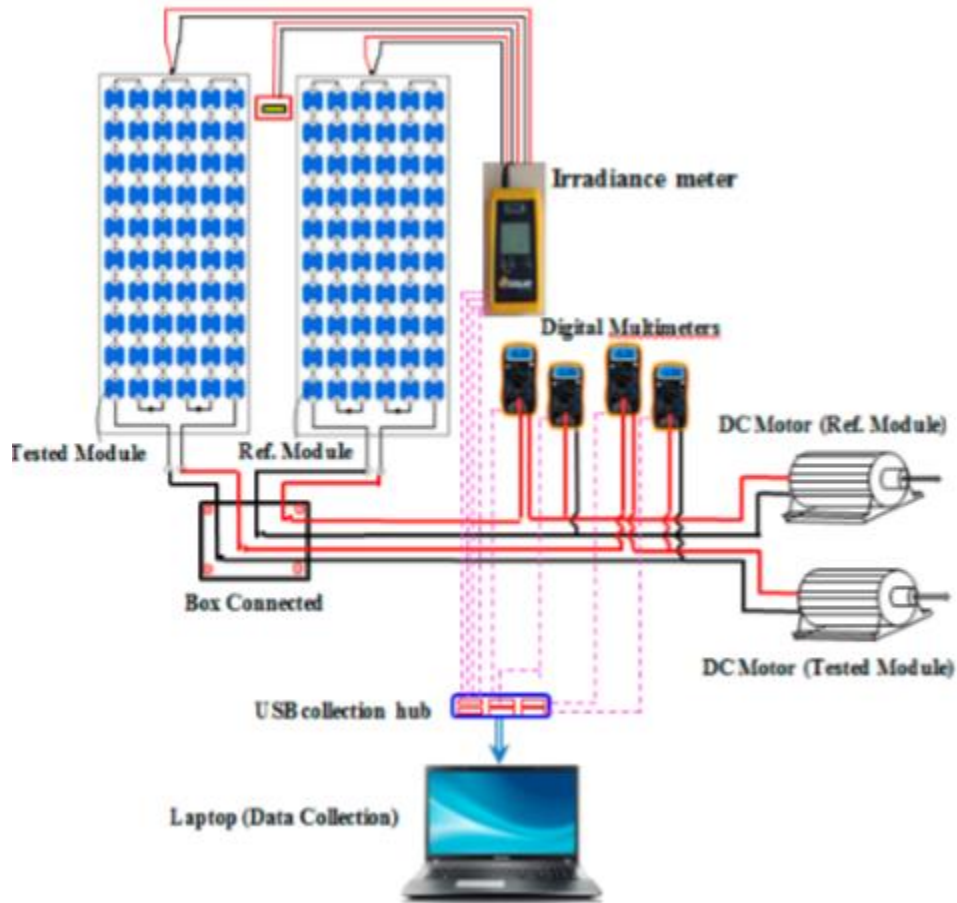

Figure 1. The experimental set-up: two PV modules, multi-meters, a radiation power density meter, and a DC motor.
The experimental setup was situated on the roof of our home in malakand. system was consist of two PV modules (Figure 1), each was connected to a (DC) motor. There was no tracking system but the effect of temperature was taken . LAT 34 40 , LON 71 55 TITTAT 55 20